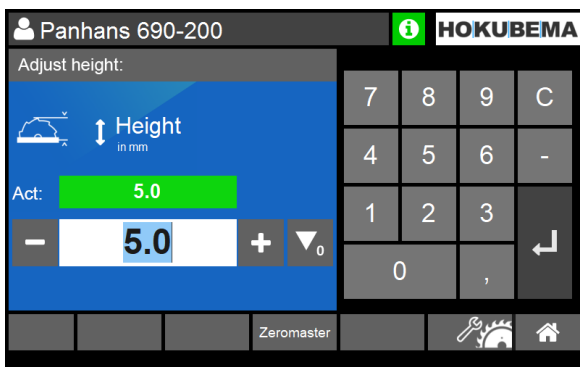

Figure 46: Adjust height
2. Enter the desired target position in mm (see ⇒ Figure 46).
4. Start the process with the positioning button (2).